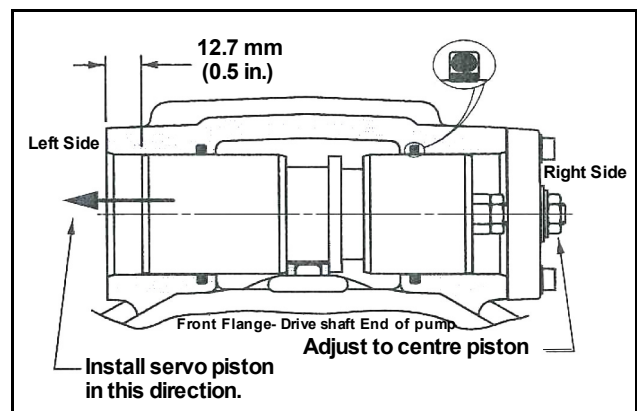

Figure 5-122. Servo Piston Installation
4. Screw the cover plate onto the servo piston assembly. Install new cover plate gasket in place on housing. Install servo piston assembly and cover plate into servo piston bore in right side of housing (as shown in Figure 5-122. Retain cover plate with four each washers and capscrews. Torque capscrews 40 to 48 in.lbs (4.5 to 5.4 Nm). To obtain neutral, centering the servo piston assembly is required. Measure in from the left side and set servo piston 0.5 in. (12.7 mm) from surface of housing servo bore as shown in Figure 5-122..